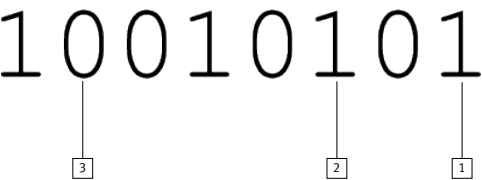

Fig. 12: Valve assignment in binary code
- Convert decimal value to binary code and interpret → Fig. 12.